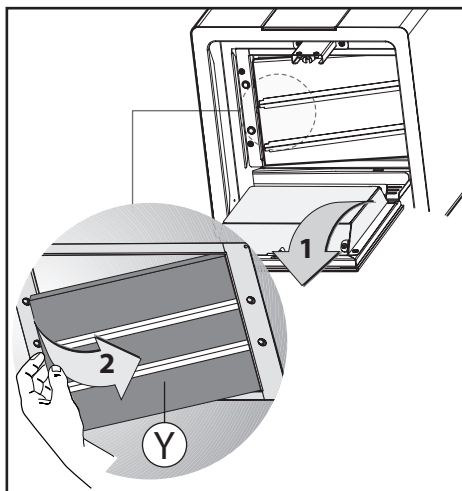

Fig.12
- Remove the brackets from their housing and pull them outwards. (Fig. 12).